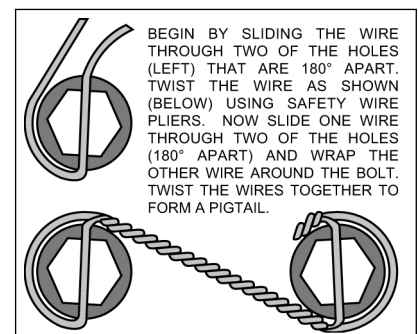

Figure 3. Safety Wire Diagram
- Insert one sleeve (3) each into the holes on the top and bottom of the spindle "ears" where the OEM caliper bracket was removed. Apply red *Loctite*® 271 to the caliper mounting bracket bolt threads (5) before installation of the caliper mounting bracket (1). Install the caliper mounting bracket (1) with the threaded inserts and the beveled bolt holes facing the outside of the vehicle. Slide bolt (5) through lock washer (4) and shim (16) into the previously installed insert (3) from the backside of the spindle. Position flat washer (2) [and (2A) for 2001 Honda Civic only] between the spindle and the caliper mounting bracket (1) on the outward facing side of the spindle. Finger tighten. Repeat for the lower mounting holes. Torque bolts to 47 ft-lb. **NOTE:** Be sure the heads of the caliper bracket (1) insert nuts are facing outward toward the wheel.
- With the larger I.D. side of the rotor (6) facing away from the hat (7), bolt rotor (6) to hat (7) through the backside of the rotor using washers (8) and bolts (9). Torque bolts (9) to 180 in-lb. Safety wire bolts (9), see Figure 3. Slide the rotor/hat assembly onto the spindle. Install a couple of lug nuts (finger tighten) to keep the rotor/hat assembly in place while continuing with the installation.
- With the bleed screws pointing up, mount the caliper (10) onto the caliper mounting bracket (1) using two bolts (11), two lock washers (12) and two shims (13). View the rotor (6) through the top of the caliper (10). The rotor (6) should be aligned in the center of the caliper (10). If not, loosen the two bolts (11) and adjust the caliper (10) by using 0.035 inch thick shim washers (13). The shim washers (13) should be placed between the caliper (10) and the caliper mounting bracket (1). Finger tighten and recheck alignment. Add as many shim washers (13) as necessary to achieve the correct alignment. Always use the same amount of shims on both the top and bottom caliper mounting bolts (11). Loosen the two bolts (11) and apply red *Loctite*® 271 to bolt threads (11) and torque to 30 ft-lb. Safety wire the two bolts (11).
- Install the disc brake pads (14) and secure using cotter pin (15). Repeat this procedure for the other wheel.